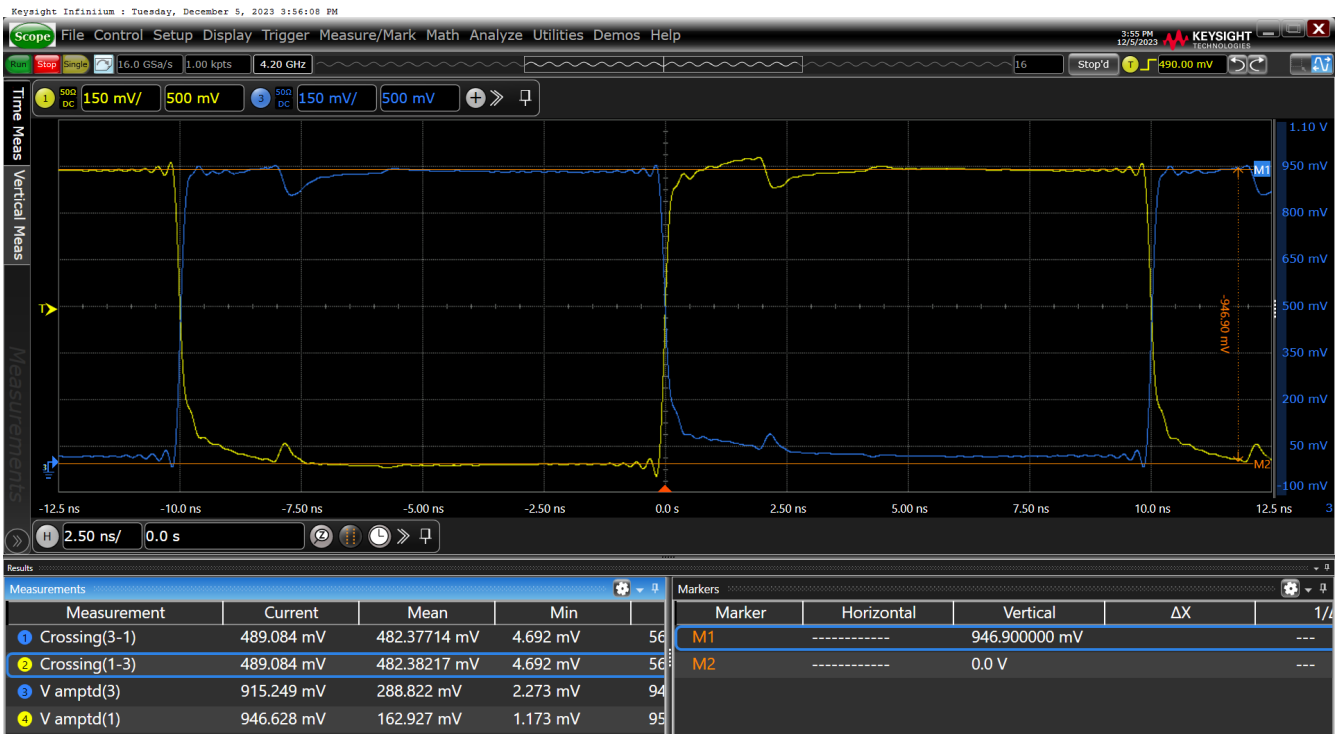

Figure 13. Vovs–HCSL Internal Termination SWING = 850mV on OUT11
- Figure 13. Vovs–HCSL Internal Termination SWING = 850mV on OUT1110